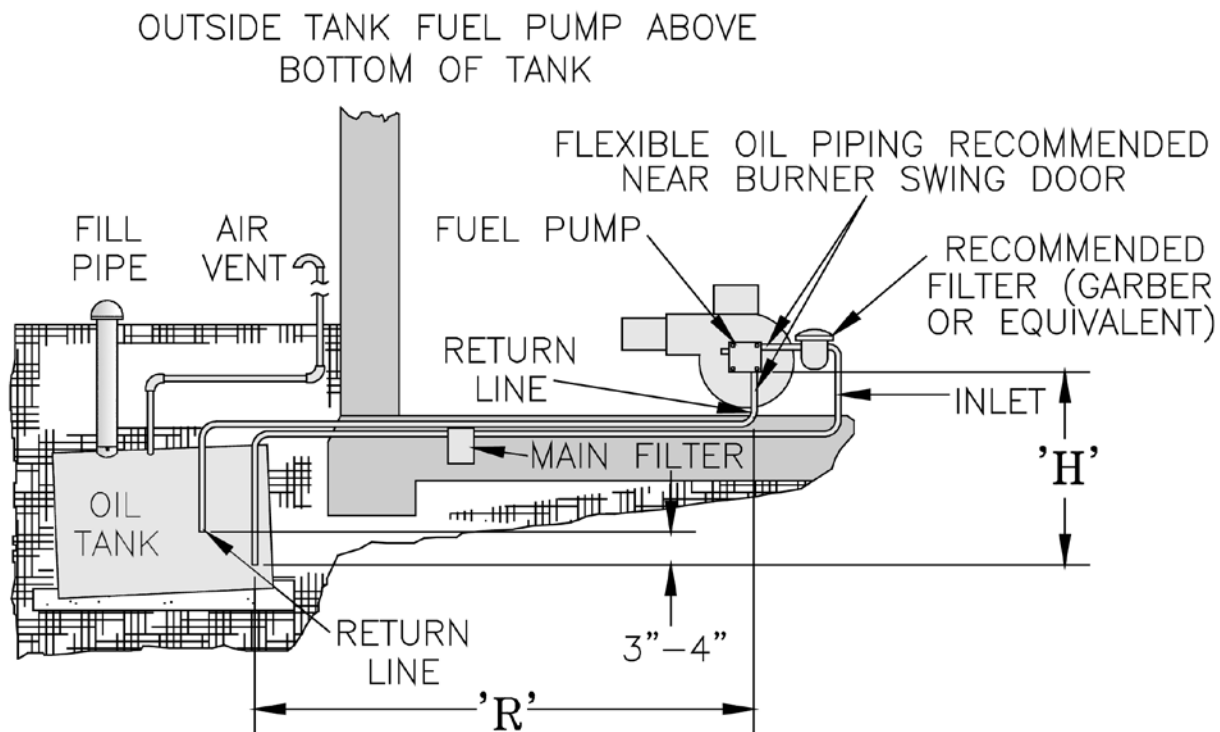

Figure 14: Two-Pipe Installation
- For two-piped systems, where more lift is required, the two-stage fuel unit is recommended. Table 4 (single-stage) and Table 5 (two-stage) show allowable lift and lengths of 3/8 inch and 1/2 inch OD tubing for both suction and return lines. Refer to Figure 14.